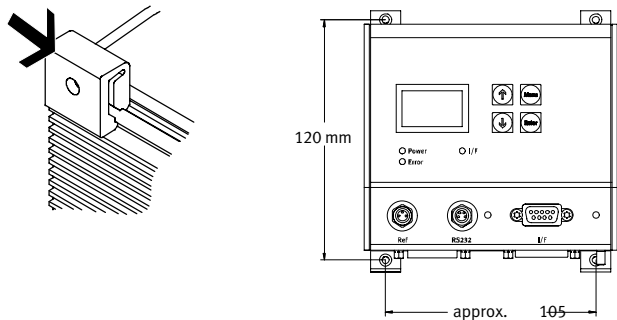

Fig. 2/2: Mounting with fixed screws
- 2 sets of central supports, type MUP-18/25 (accessories). The 4 brackets are clipped into the edge of the housing (see Fig. 2/2).
- 4 tapped holes for screw size M3 (for dimensions see Fig. 2/2) with matching screws.